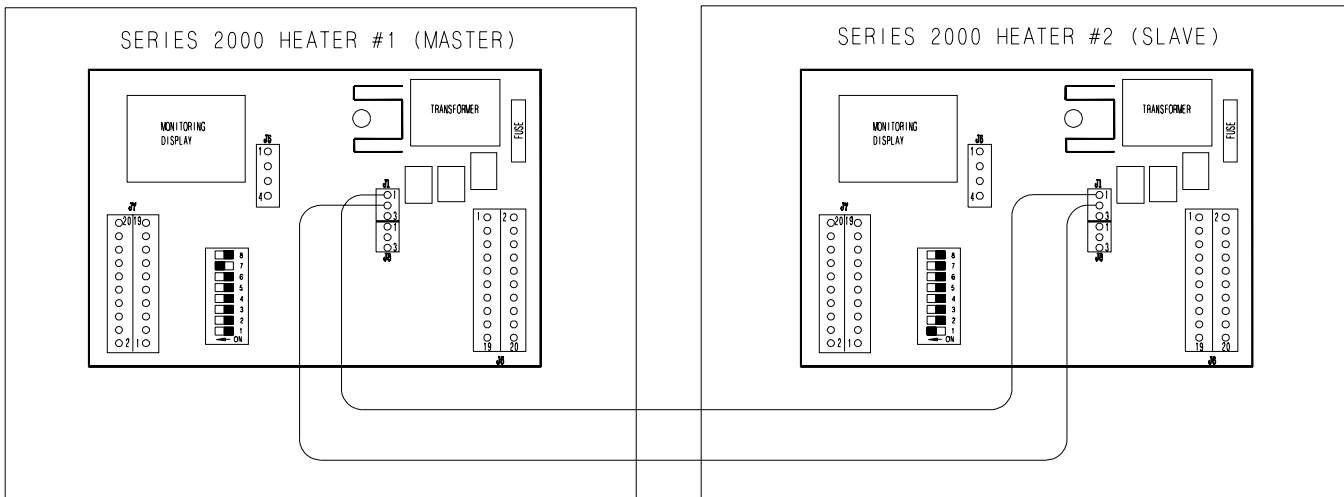

Figure 3: Secondary heater wiring diagram.
2. Run (2) 20 gauge (minimum) wires from secondary heater unit (slave) to heater unit #1 (master).
3. Connect wires as shown in Figure 3.